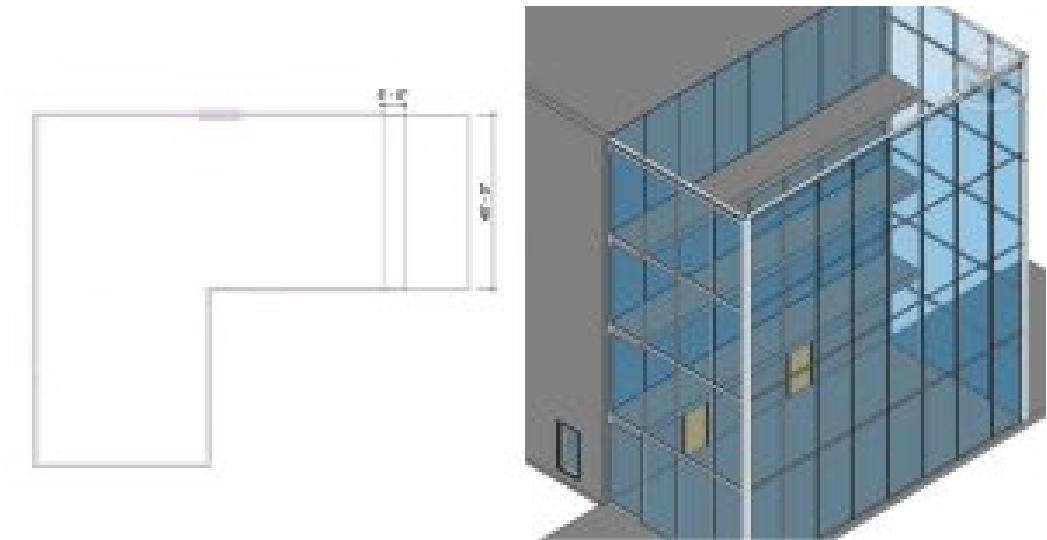

Figure 3.11 Modified floor shown in plan view and finished floor in 3D view
5. Use the Line tool  to add a 5-foot-wide mezzanine as shown in Figure 3.11